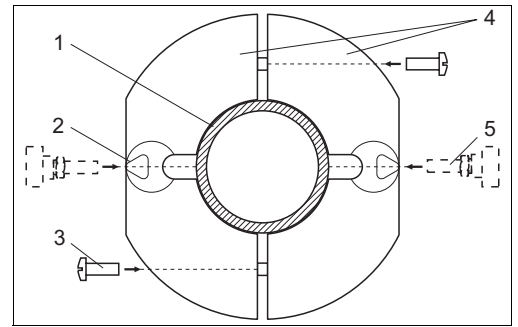

Fig. 12: Retaining ring
1. Put the half-shells (Fig. 12, pos. 4) of the adapter to the desired position of the assembly pipe.
2. Fix the half-shells with the Phillips screws (Fig. 12 pos. 3).
3. Screw the stop nuts onto the two knurled thumb screws (Fig. 12, pos. 5).